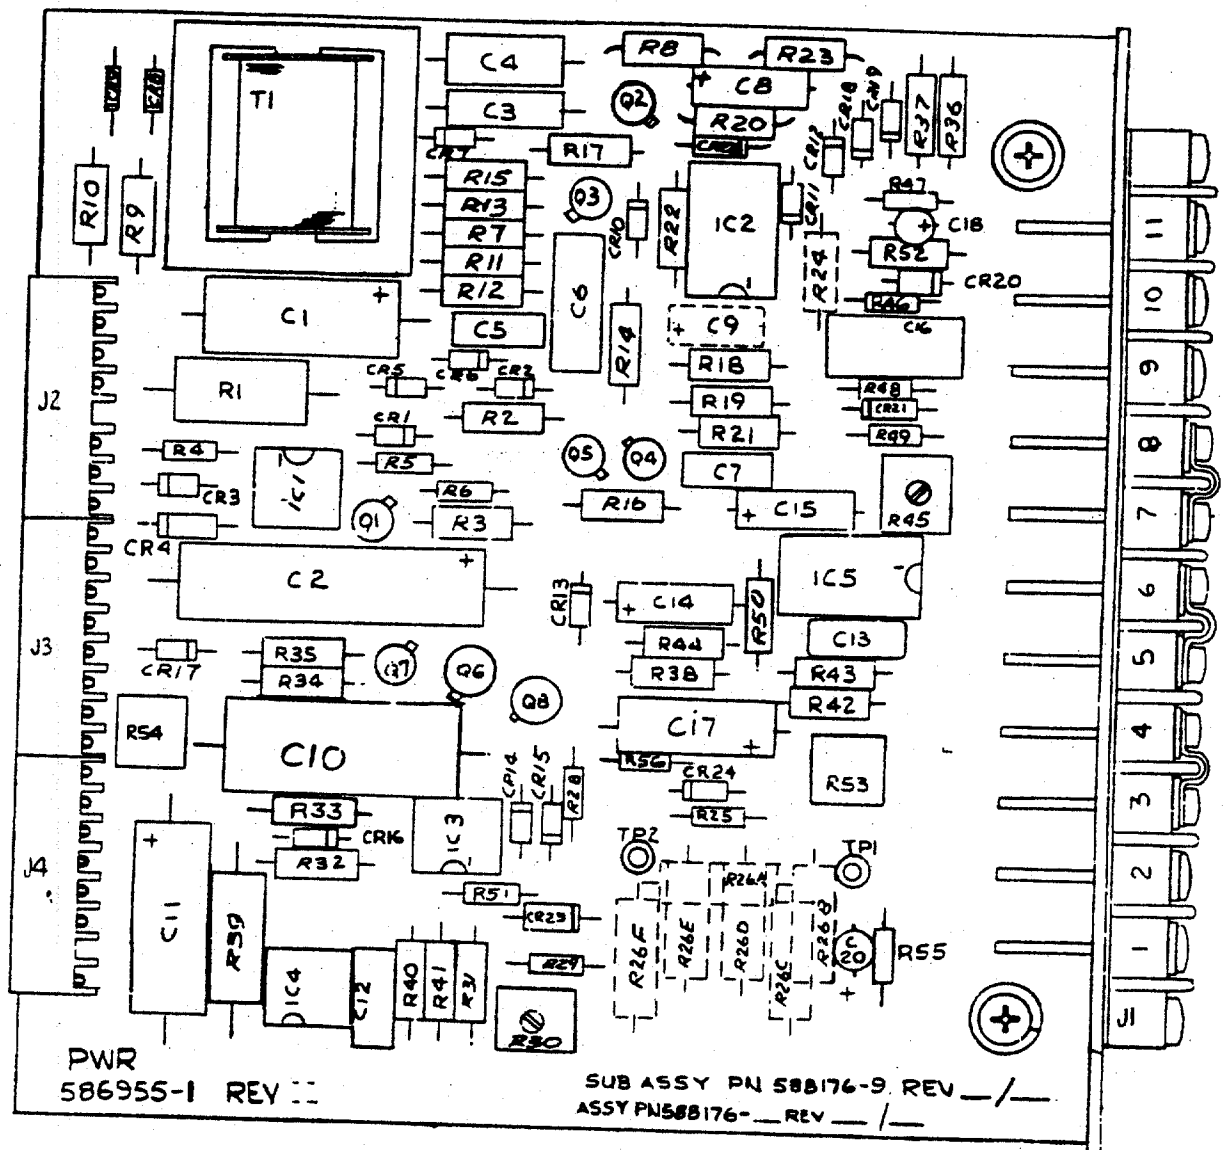

Figure 6-2 PCB Component Location Diagram
4. Set unit POWER switch to ON, and adjust R30 on the printed circuit board (Figure 6-2) until the voltmeter indicates 105% of the full output voltage rating of the supply.
This section provides a coded replaceable parts list keyed to both the schematic diagrams and assembly drawings (Figures 6-1 through 6-12). Tables 6-1 through 6-3 summarize the part numbers of all identified components. Figure 6-1 is the printed circuit board (PCB) schematic diagram. Figures 6-2 and 6-3 physically locate parts on the PCB and chassis frame respectively.